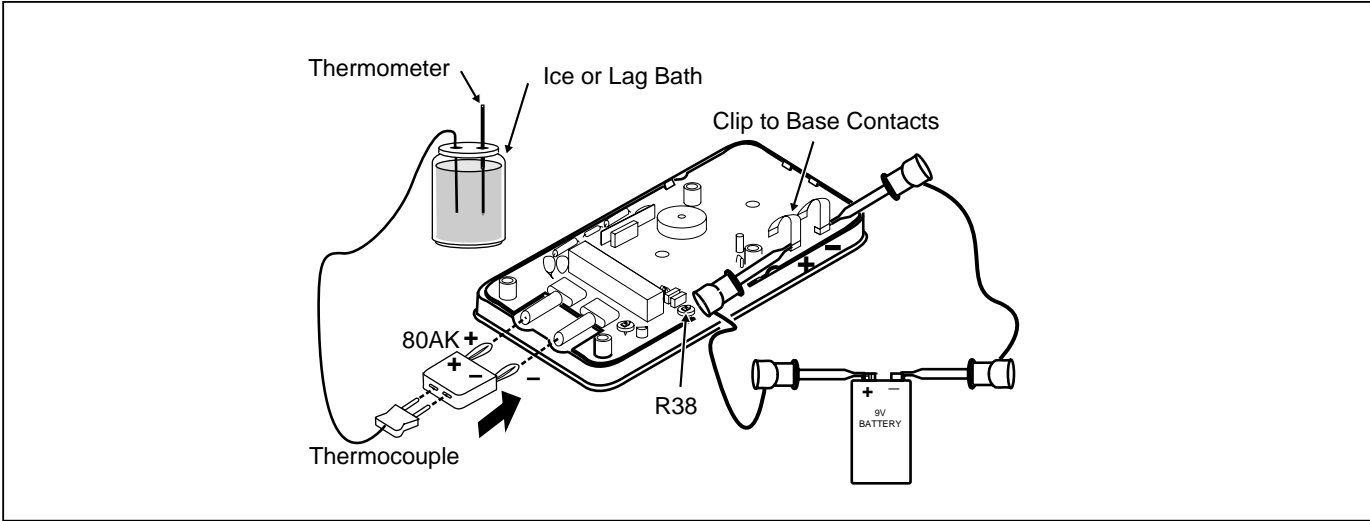

Figure 6. Calibration Adjustment for Temperature Using an Ice or Lag Bath
2. Insert a thermocouple in an ice bath (see Figure 6).
4. Connect the other end of the thermocouple wire to the Meter using a Fluke 80AK Adapter Plug (see Figure 6). Allow the instrument reading to settle.
2. Insert a thermocouple in a lag bath (see Figure 6).
4. Connect the other end of the thermocouple wire to the Meter using an 80AK Adapter Plug(see Figure 6). Allow the instrument reading to settle.